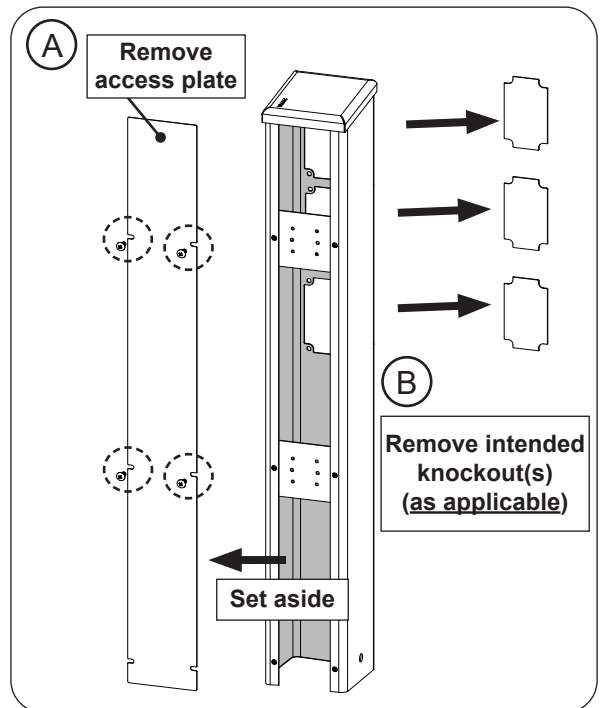

Fig. 4-2 Post preparation
1. Use a Phillips head screwdriver to remove the four screws on the access plate. See Fig. 4-2, A.
3. As needed, select and remove the intended knockout(s) from the stainless steel post. See Fig. 4-2, B.